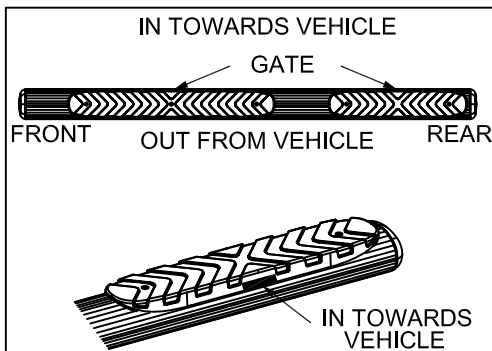

Fig. 3
a.) Position step rail on brackets with the mounting holes on the tube aligned with the mounting holes on the brace. Make sure the tube is oriented as shown in Fig. 3. The gate or cut edge of the step pad faces towards the vehicle.
b.) Secure step rail to each bracket with two (2) M6 bolts, but do not fully tighten.